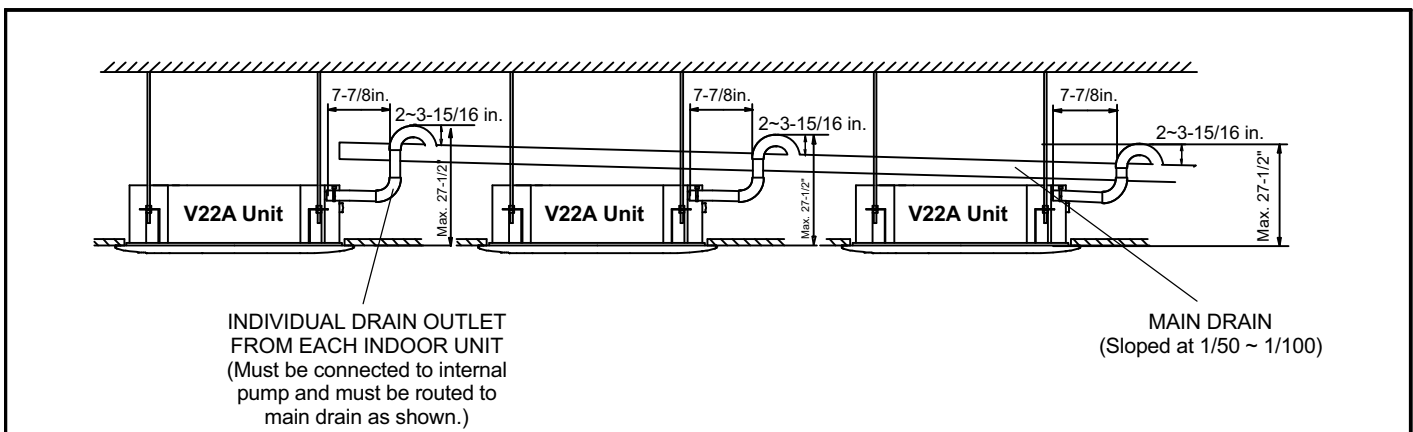

Figure 10. Using a Main Drain to Serve Multiple Indoor Units
- 4 - See figure 10 for applications including multiple units using the internal condensate pump to provide lift into a single, correctly sized main drain. In this case, ensure that the main drain line is properly sloped (no less than 1/4 inch per foot) and that each individual drain is connected to the main drain exactly as shown.